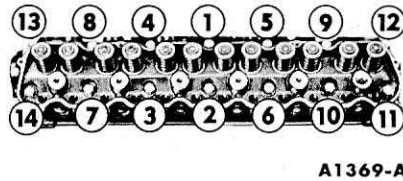

FIG. 27—Cylinder Head Bolt Tightening Sequence
6. The cylinder head bolts are tightened in three progressive steps. Torque all the bolts in sequence (Fig. 27) to 55 ft-lbs, then to 65 ft-lbs, and finally to 75 ft-lbs. **After the cylinder head bolts have been torqued to specifications, the bolts should not be disturbed.**